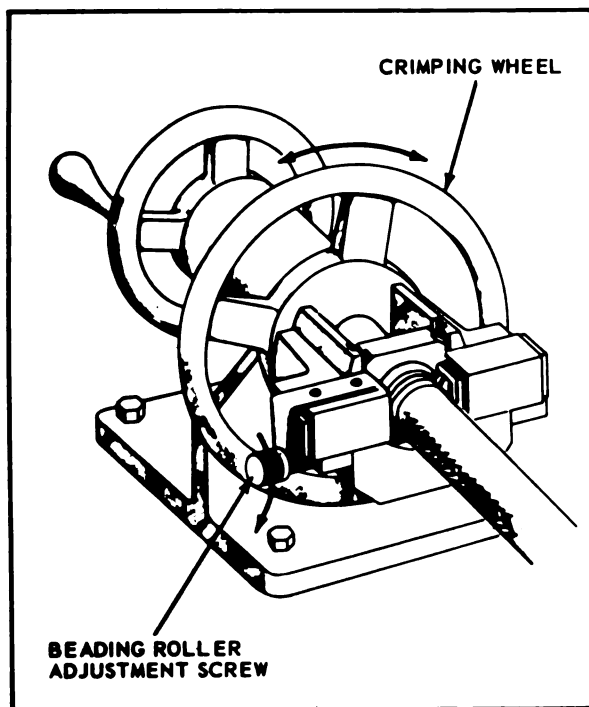

Figure 11-17. Crimping Ferrule
- l. Turn adjustment screw (figure 11-17) clockwise until beading rollers exert slight pressure on ferrule.